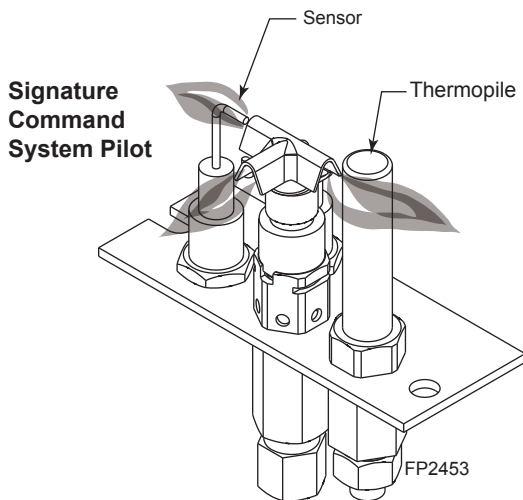

Figure 38 -
1. Check pilot flame. Flame should touch approximately 3/8" of the top of thermopile and touch top of thermocouple. *Figure 38* If not, contact dealer for service.